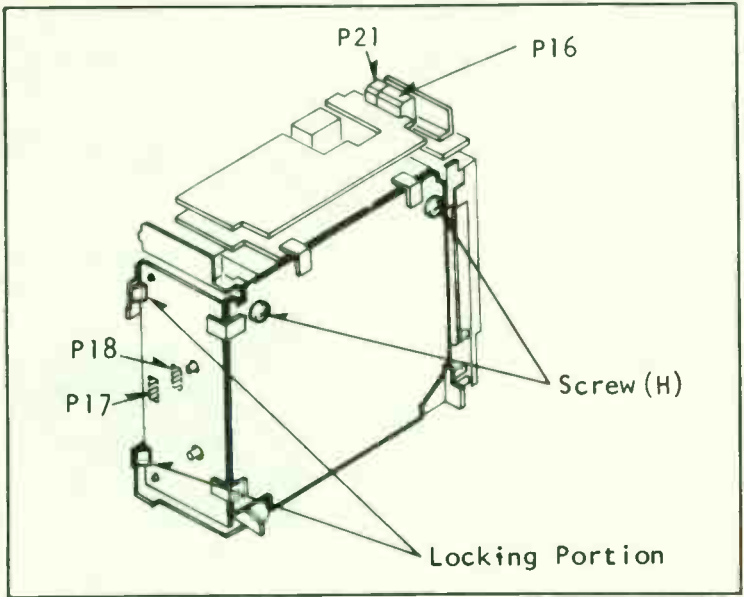

Fig. 9-13. Opening the PC boards for servicing (courtesy of General Electric).
2— Remove (2) screws (H), unlock the (2) locking portions and carefully open the PC board. Support the PC boards with your hand to prevent them from being laid down. Refer to Fig. 9-13.